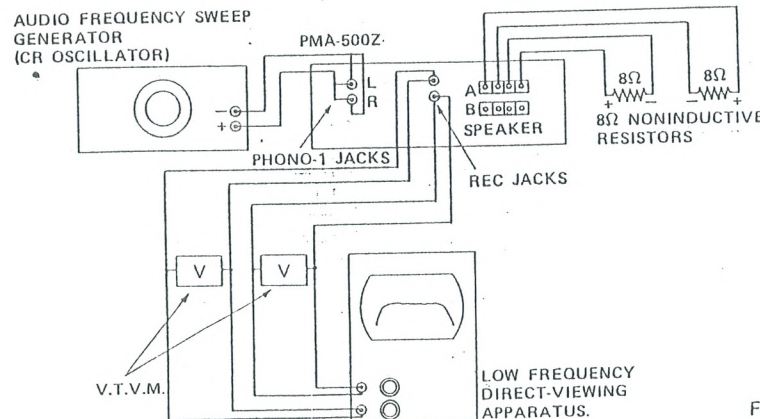

Fig. 23
- C. Figure 23 shows for testing PHONO-1 frequency characteristic.